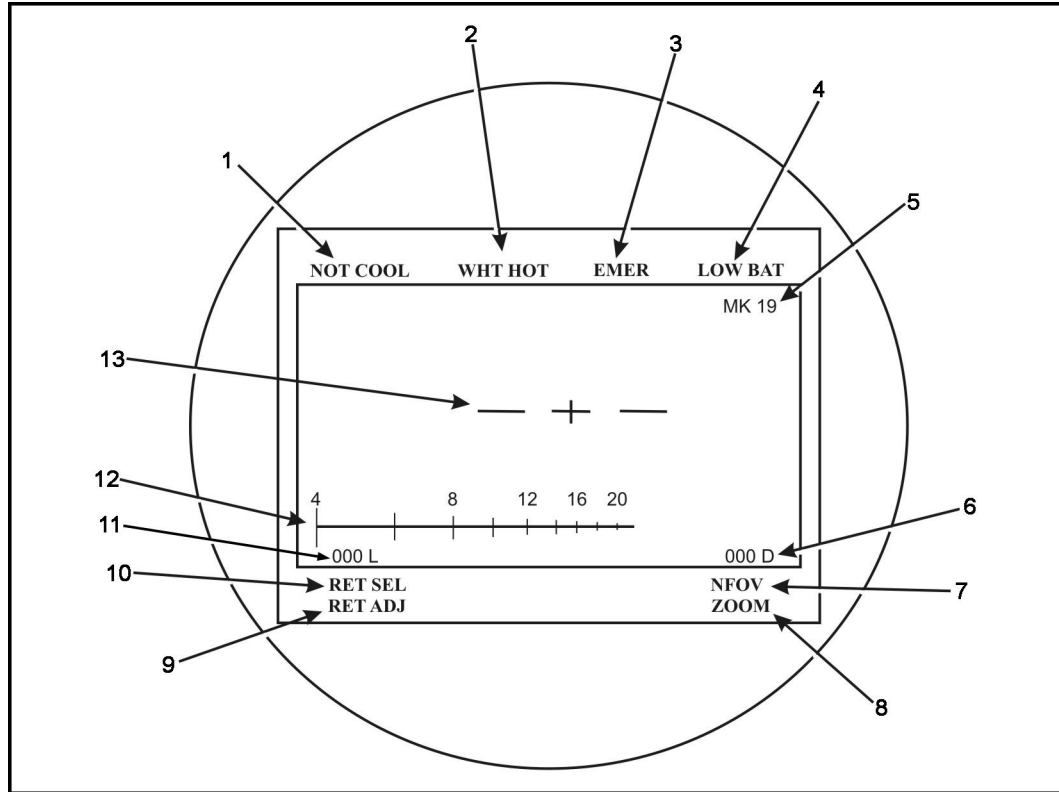

Figure G-11. Status indicators and raster.
(2) The EMERGENCY SWITCH CONTROL places the HTWS in emergency mode. The eyecup must be depressed in order for the CRT to illuminate.
(3) The BRIGHTNESS CONTROL is a rotary switch with an off detent position (turned fully counterclockwise). The purpose is to turn the system on or off and adjust the brightness of the eyepiece display.
(4) The FOCUS RING adjusts the telescope focus from 20 meters to infinity. It requires a manual adjustment and affects both the wide and narrow fields of view.
(5) The FIELD OF VIEW RING (FOV) is located on the telescope. It has a wide and a narrow field of view. The wide FOV is for using low magnification during target detection, and the narrow FOV is for using high magnification during recognition and engagement.
(6) The RETICLE SELECT SWITCH selects one of the available reticles depending on the type of thermal sight (medium or heavy) and the weapon. It must be held for two seconds to enable reticle changes. After two seconds, release the switch to cycle to the next reticle. This control is disabled after ten seconds of inactivity.
(7) The RETICLE ADJUST SWITCH adjusts the reticle aiming features in azimuth and elevation. It is used during zeroing, and it must be held for two seconds to allow changes to be made. After two seconds, each press moves the reticle aiming features one increment. This control is also disabled after ten seconds of inactivity.
(8) The BLACK/WHITE POLARITY SWITCH selects the polarity of the thermal image displayed on the raster. The initial setting is "white hot." The polarity switch affects the appearance of the target.
(9) The DIOPTER HOLDING DEVICE allows the diopter to be adjusted when pulled back.
(10) The EYECUP controls the STANDBY/ON operating mode. When forward pressure is applied to the eyecup, the system is in the ON mode. When forward pressure is removed for more than 30 seconds, the system returns to the STANDBY mode.
(11) The DIOPTER FOCUS RING adjusts the focus of the raster and indicators to the operator's eye. It ranges from +2 to -6 diopters.
d. **Status Indicators and Raster** (Figure G-11). The status indicators and raster are visible when the user presses his eye against the eyecup. The indicators display the system status and configuration. The raster displays the thermal image, the selected reticle, and azimuth/elevation zeroing adjustment indicators.
(1) The status indicators are:
- NOT COOL (1): Displayed when the system is not cool enough for proper operation.
- WHT HOT/BLK HOT (2): Indicates the target polarity.
- EMER (3): Displayed when system is in emergency mode.
- LOW (4): Displayed when battery power is low (approximately fifteen minutes of useful power left).
- FIELD OF VIEW (7): Indicates when the wide field of view (WFOV) or the narrow field of view (NFOV) is in use
- ZOOM (8): Displayed when the zoom mode is selected
- RET ADJ (9): Indicates the reticle adjustment mode is selected
- RET SEL (10): Indicates the reticle select mode is selected
(2) The DISPLAY RASTER displays the thermal image with a superimposed reticle and indicators: